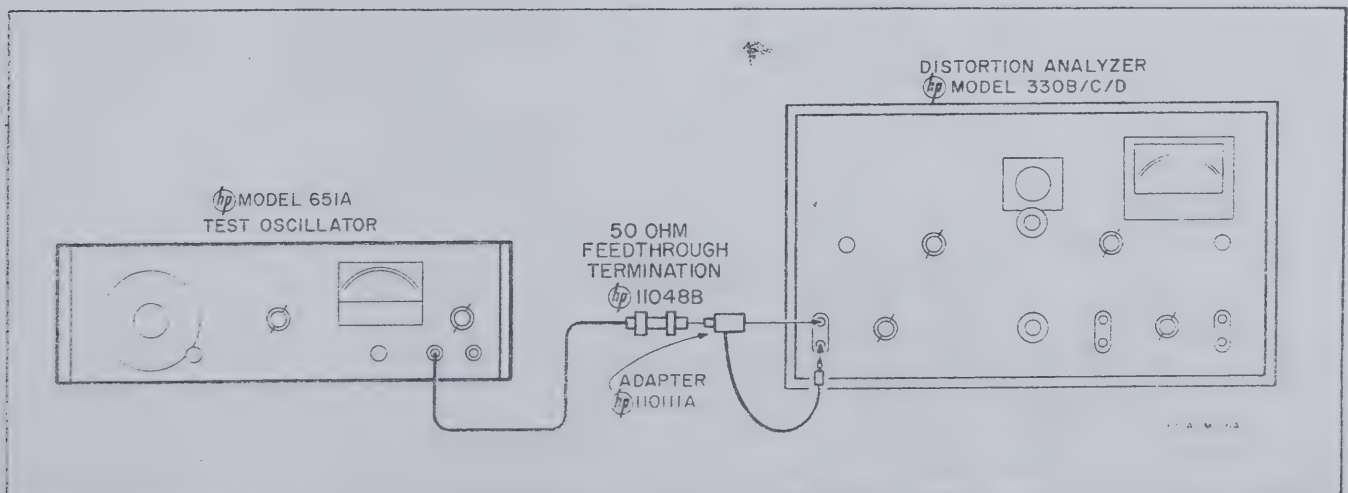

Figure 5-4. Distortion Check
- a. Connect Model 651A as shown in Figure 5-4.
- g. Connect Model 651A to Distortion Analyzer as shown in Figure 5-4.